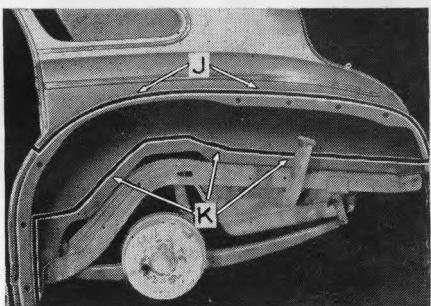

FIG. 6
7. On the outside of the body, cut along the curved edge of the wheelhouse, "J" Fig. 6, from the rear door opening to the lower rear corner of the trunk. Confine the cut to the creased or curved edge of this panel without any wavering or running off
- As the final operation in the removal of the panel it is not necessary to cut the lower skirt of the wheelhouse exactly at the edge of the floor pan. It may be cut $2\frac{1}{2}$ " or 3" above the edge of the floor so as to provide a convenient strip "K" Fig. 6 for attaching the replacement panel.